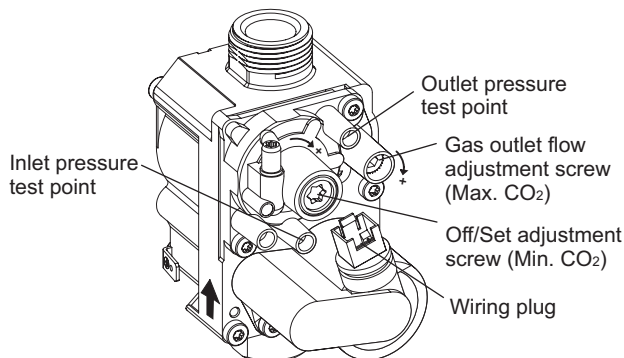
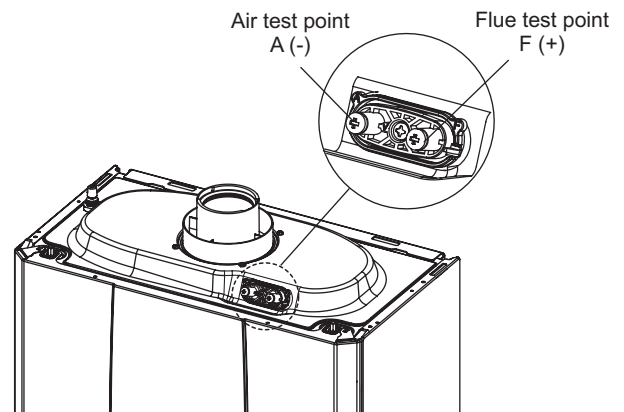

Fig. 5.2
Fig. 5.3
The air gas ratio of the boiler has been factory-set and should not require adjusting during commissioning. If adjustment is recommended or required the engineer must be competent to carry out this work. See Fig. 5.3 for analyser test point.
Refer to Section 5.6 and enter the chimney sweep mode (with no DHW demand) use the DHW down button to set the output to minimum (0%). Insert the analyser probe into the flue test point (Fig. 5.3) and check that the CO2 value is as specified in Section 2.1, otherwise adjust the screw (Fig. 5.2) To increase the CO2 value, turn the adjustment screw in a clockwise direction and vice versa to decrease.
When you finish the minimum CO2 adjustment, while maintaining the chimney sweep function active, use the DHW up button to set the output to maximum (99%). Insert the analyser probe into the flue test point (Fig. 5.3) and check that the CO2 value is as specified in Section 2.1, otherwise adjust the screw (Fig. 5.2). To increase the CO2 value, turn the adjustment screw (Fig. 5.2) in a clockwise direction and vice versa to decrease it.
Connect the flue gas analyser to the flue gas sampling point as shown in Fig. 5.3.
**Notes:** 1. Prior to servicing, it is recommended that a flue gas analyser is used to measure the performance of the boiler (refer to Fig. 5.3 for the position of the flue sampling point). Refer to Section 5.6 Checking combustion. If the CO/CO2 ratio measured is greater than 0.004 **or** when other checks or comments from the customer have indicated that there may be problems, check the following: